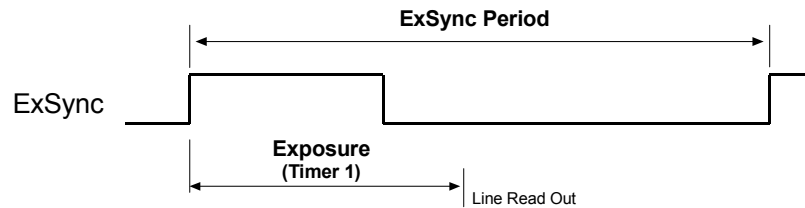

Figure 3-5: ExSync, Programmable Mode
- In **ExSync, programmable** mode, the rising edge of ExSync triggers exposure and charge accumulation for a pre-programmed period of time. The line is read out and transferred at the end of the pre-programmed period. The falling edge of ExSync is irrelevant (see Figure 3-5). A parameter called “Timer 1” is used to set the length of the pre-programmed exposure period.